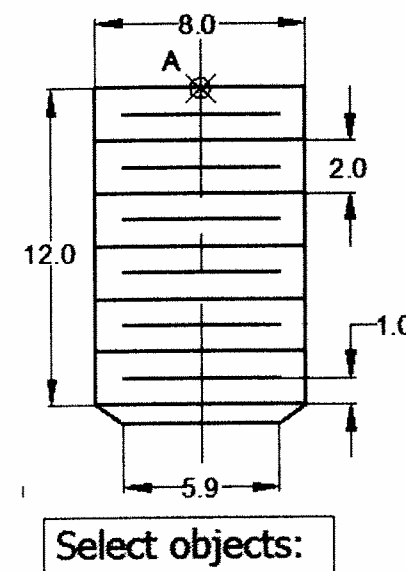

Figure 6-2d
- The object selection prompt will appear, Figure 6-2d.
- In this example, the dimensions and the label A are excluded from the block. Select the objects as shown in Figure 6-2d.